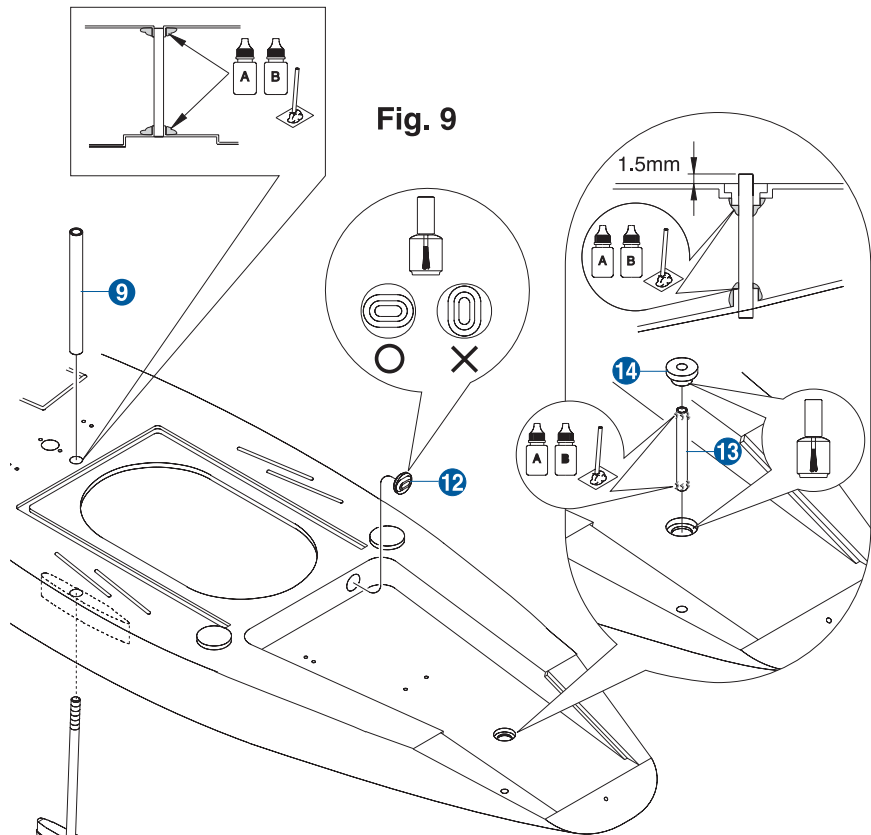

Fig. 9
3. Locate the Keel Mounting Tube **9** from the parts bag. Trial fit the tube into the hull as shown in the Fig. 9, and secure with epoxy when satisfied. Allow the epoxy to cure.